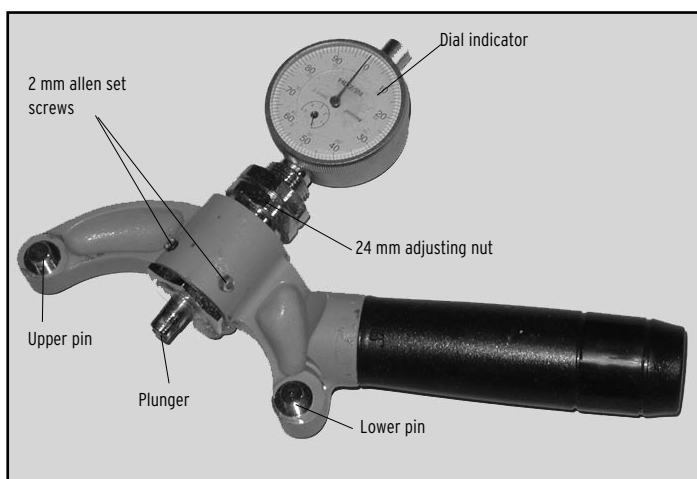

Fig. 24
1. Verify the dial indicator (Fig. 24) reads 0.00 at rest. If not, rotate the dial faceplate until gauge reads correctly. Make this adjustment before every reading to ensure correct measurement.